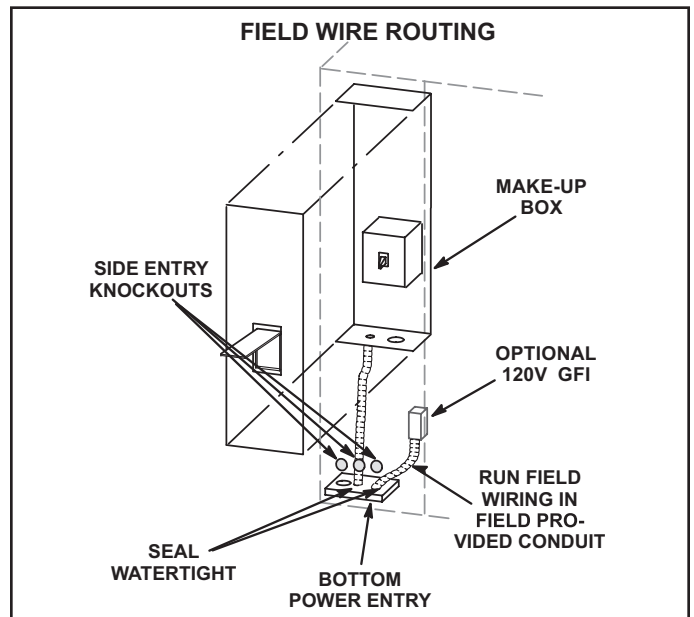

FIGURE 14
Route field wiring in conduit between bottom power entry disconnect. See FIGURE 14. This does not supersede local codes or authorities having jurisdiction.
- 3- Connect separate 120v wiring to optional field-powered GFCI outlet. Route field wiring in conduit between bottom power entry and GFCI. See FIGURE 14. For unit-powered GFCI, no additional field wiring is required.